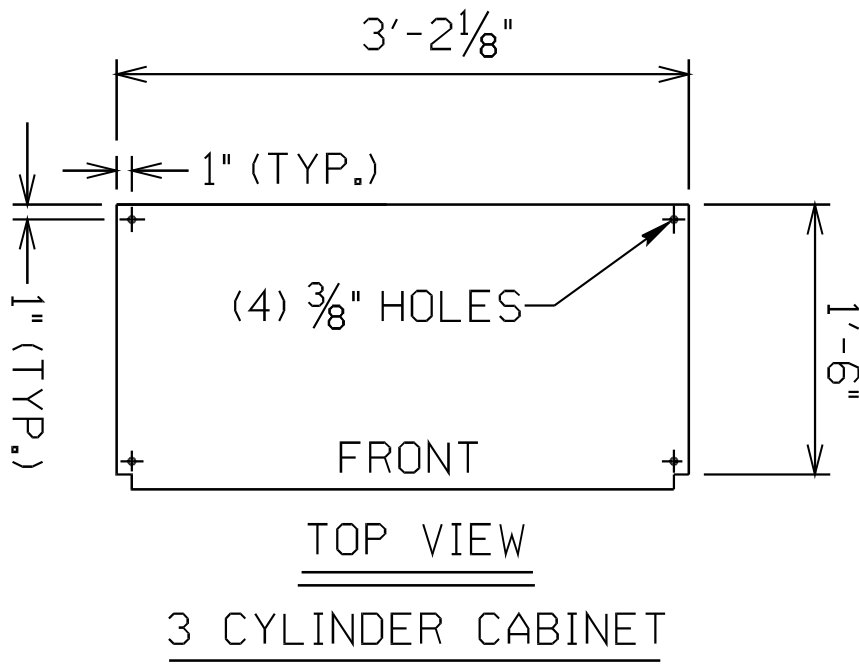

Figure 2.5: Mounting Hole Locations for 3 Cylinder Cabinet
The Gasguard 450 cabinet and racks are mounted to the floor using the four (4) 3/8" holes located in each corner of the cabinet base. See Figures 2.5 through 2.8 for mounting hole locations for the various configurations. The mounting location should be clean and level.